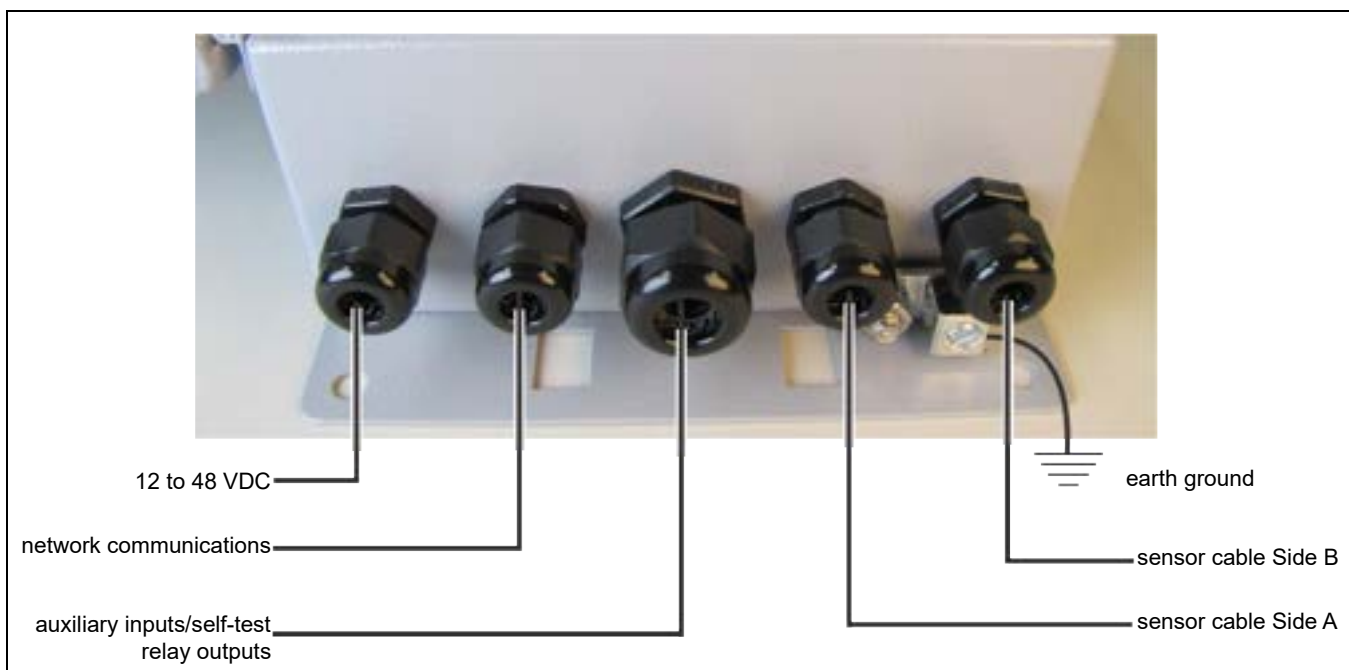

Figure 61: Cable entry recommendations
1. Remove the two 3/8 in. sensor cable glands from the enclosure's right side (see Figure 61:).